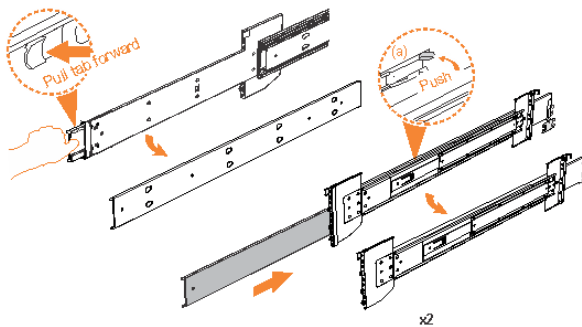

Figure 55. Detaching the inner rail section
3. Remove the inner member of the rail. Push the tab (a) and slide the middle rail member back, as shown in Figure 55 on page 55.